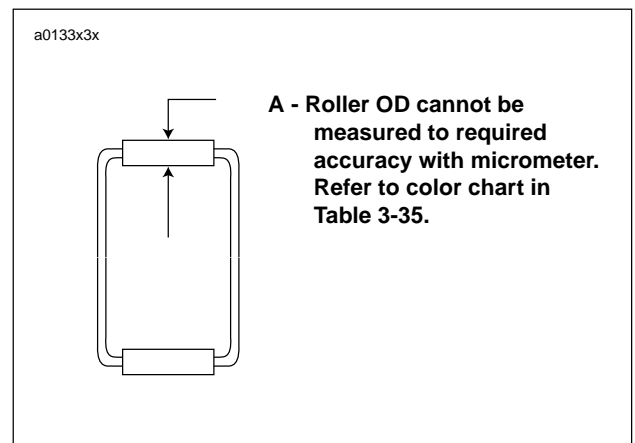

Figure 3-128. Bearing Identification
16. See Figure 3-128. Pinion bearings are identified as shown.